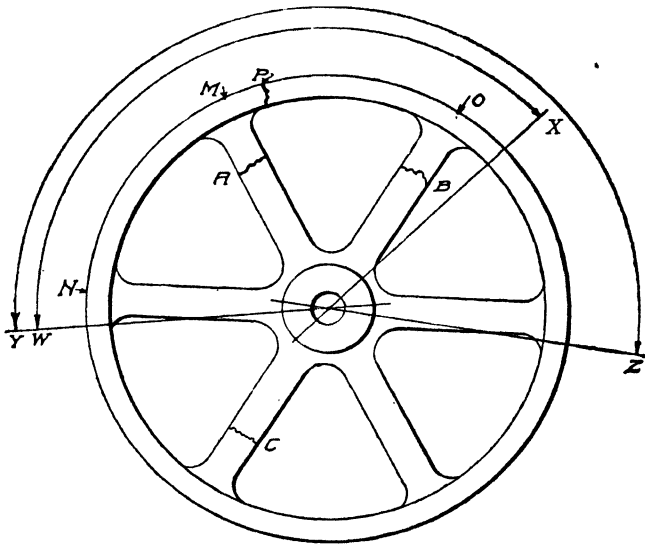

Fig. 36. Complex Case of Expansion and Contraction
**Handling Complex Case of Expansion and Contraction.** A good example of a complex case of expansion and contraction is the fly-wheel or pulley with broken spokes, as shown in Fig. 36.